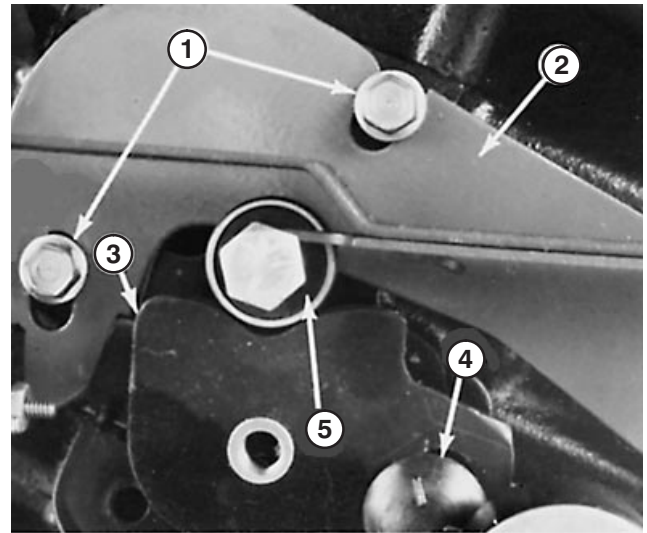

Figure 71
4. With engine OFF, loosen nut on carriage bolt and allow bearing to locate cam (Fig. 71). Carefully tighten nut on carriage bolt.
5. Loosen screws to allow neutral device bracket to move; but not freely (Fig. 71). Adjust neutral device bracket so that 40± in.-lb. of torque on control lever just starts to rotate lever. Tighten screws.